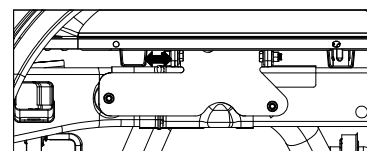

Figure D1: Driver side of truck frame inside the wheel well.
- 2. Square the hitch.** With a tape measure, check the distance between the Turnoverball hitch and the nearest bed crossmember. The distance between the hitch and the crossmember should be consistent on the passenger side and the driver side of the hitch, see figure D1. Adjust hitch until the hitch and the bed crossmember are the same from side to side.